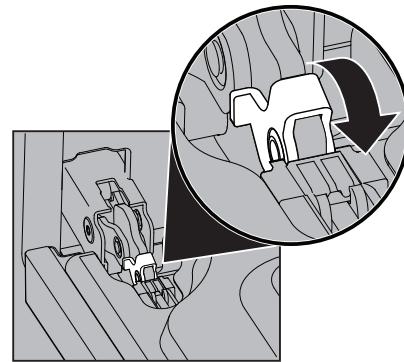

Figure 24: Door hinge lock
2. Pull up the lock located on each hinge support toward front of the oven until the lock stops. You may have to apply a little upward pressure on the lock to pull it up (Figure 24).
4. Push the door hinge locks up toward and into the oven frame on both left and right oven door hinges to the locked position (Figure 24).